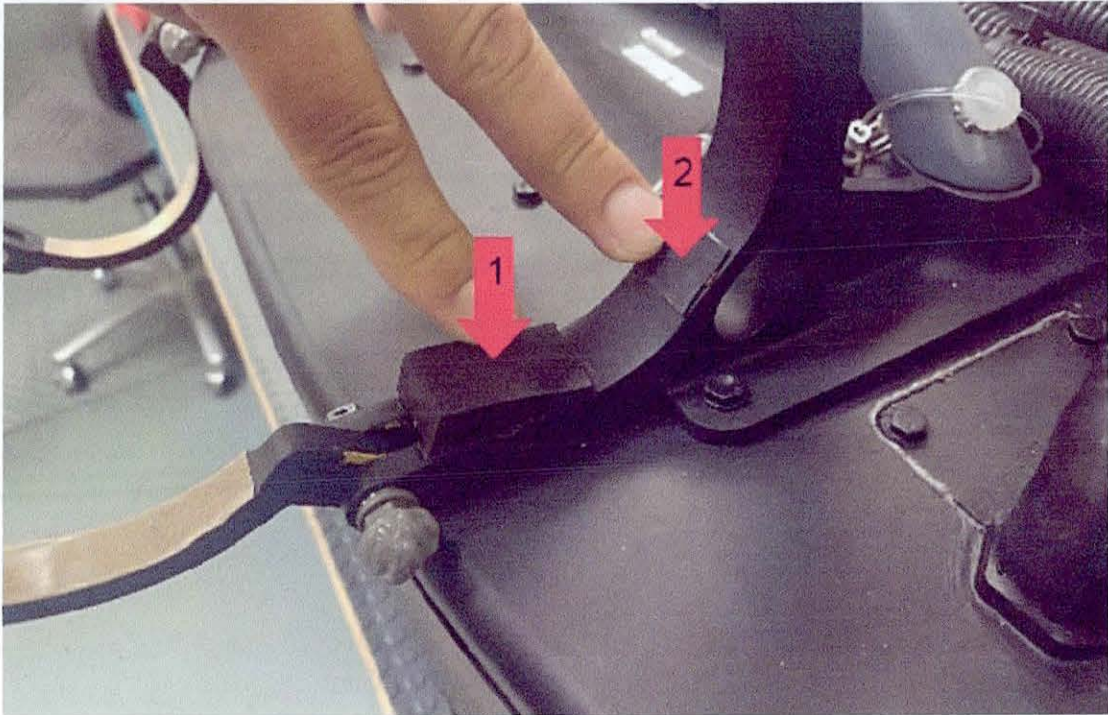

FIGURE 3: RUBBER CUSHION INSTALLATION
5. Manufacture replacement rubber cushions to install on the Dart brackets as shown in Figure 3. The large rubber cushion (Figure 3, Item 1, Airbus P/N D334M6021201) should be manufactured from Polychloroprene 31B5 and should be installed using Dow Betaseal 8000-1F adhesive. The small rubber cushion (Figure 3, Item 2) is manufactured from LN9108-5.5601-1 sheet and should be installed using 3M adhesive EC847. Prepare the surface of the Dart brackets for cushion installation using Dow Betaprime 5404.